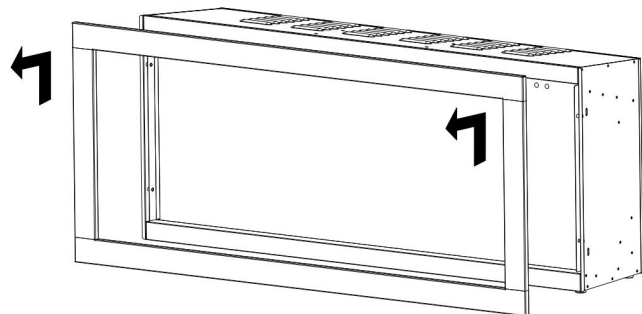

Fig. 1-2
- B. Carefully lift the front trim up and away from the appliance (Fig. 1-2). Place it face down on a soft, non-abrasive surface.